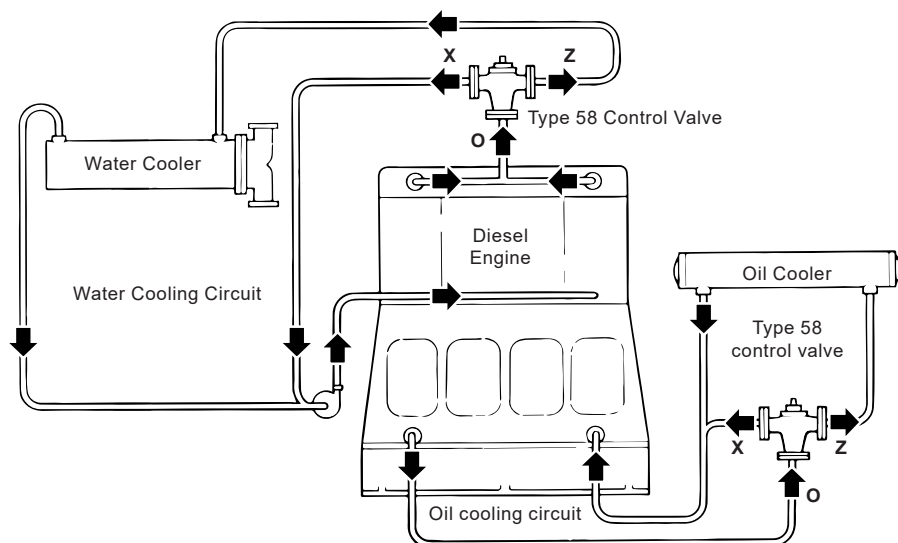

Fig. 2 Typical installation on diesel engine
- As a diversion valve to control the temperature of the cooling water and lubricating oil serving a diesel engine. Figure 2 shows a typical layout.